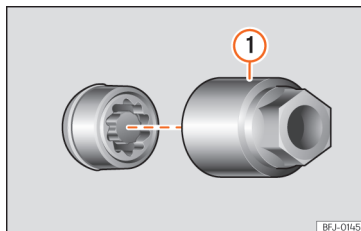

Fig. 44 Anti-theft wheel bolt with cap and adapter.
- Insert the special adapter »» Fig. 44 ① (vehicle tools »» page 41) onto the anti-theft wheel bolt and push it on as far as it will go.